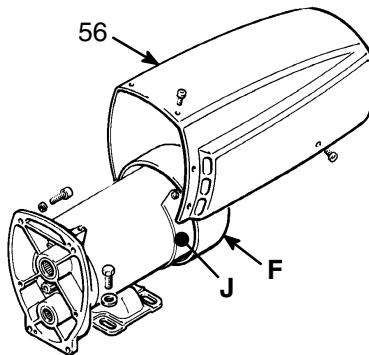

Fig 22-1
Remove the pressure control cover. Remove the motor shield (56). Remove the fan cover (F) and the inspection covers (J). *Refer to Fig 22-1.*